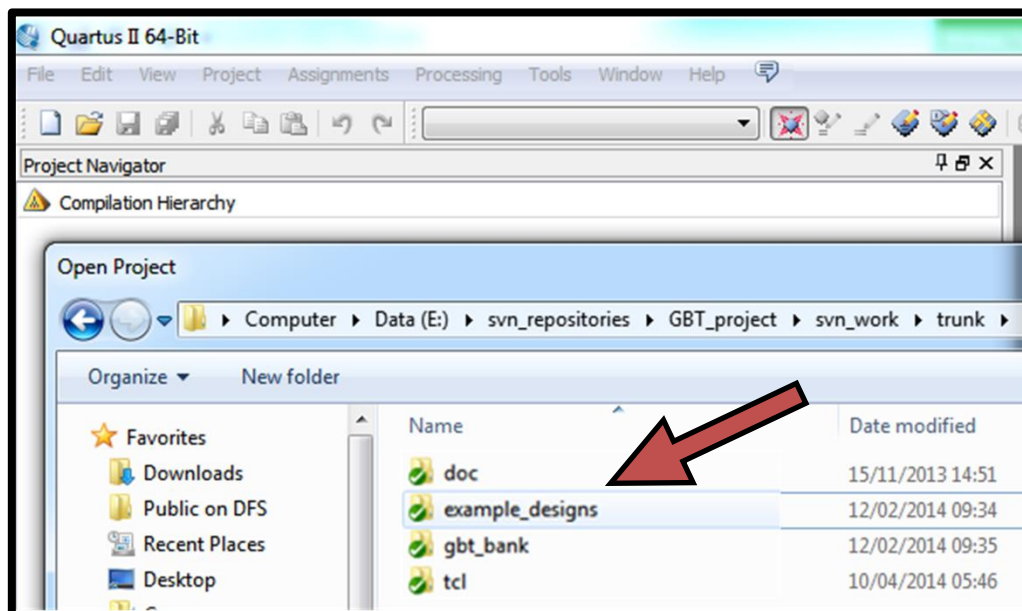

Figure 36: Root folder of the GBT-FPGA source files from the SVN repository
3. Find the folder where you have downloaded the GBT-FPGA Core source files from the GBT-FPGA SVN repository (see Figure 36).